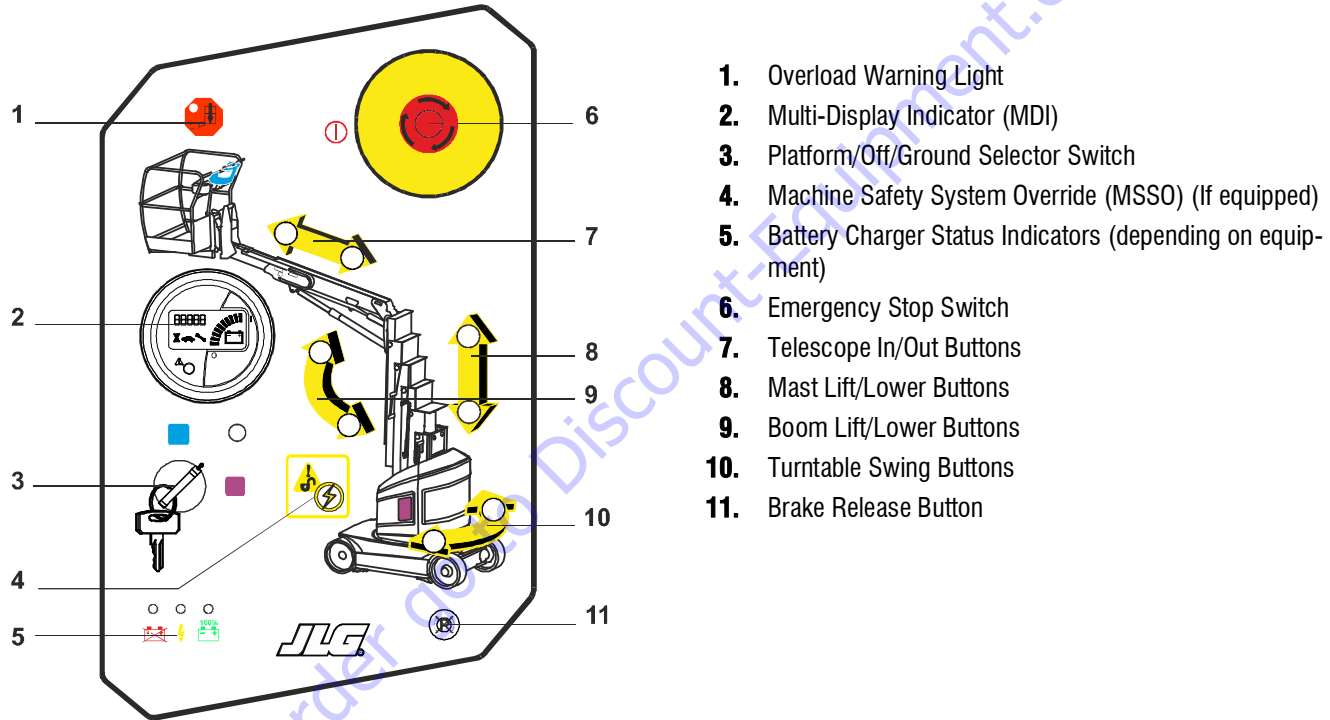

Figure 3-4. Ground Control Station
1. Push and hold the boom lift membrane switch at the ground control station. (Refer to section 3, Figure 3-4.).